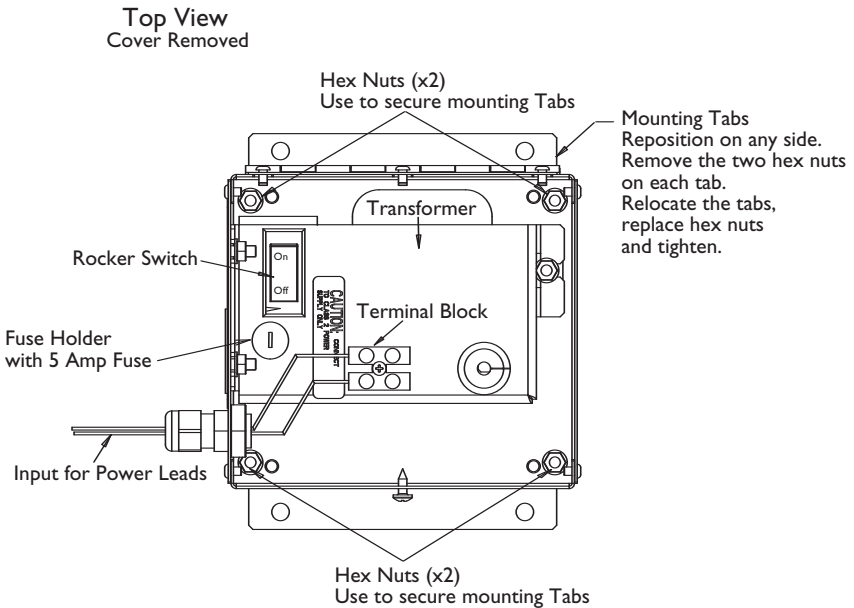

Figure 1: PS24VA4A-PB & PS28VA4.6-PB
If the position of the power supply is such that the mounting tabs need to be on the opposite sides they can be repositioned. See **Figure 1** for locations of the 4 hex nuts used to hold the mounting tabs in place. Simply remove the hex nuts, reposition tabs, replace the hex nuts and tighten.
3. Feed the power leads through the Heyco fitting and attach both wires to the terminal block as shown in **Figure 1**.